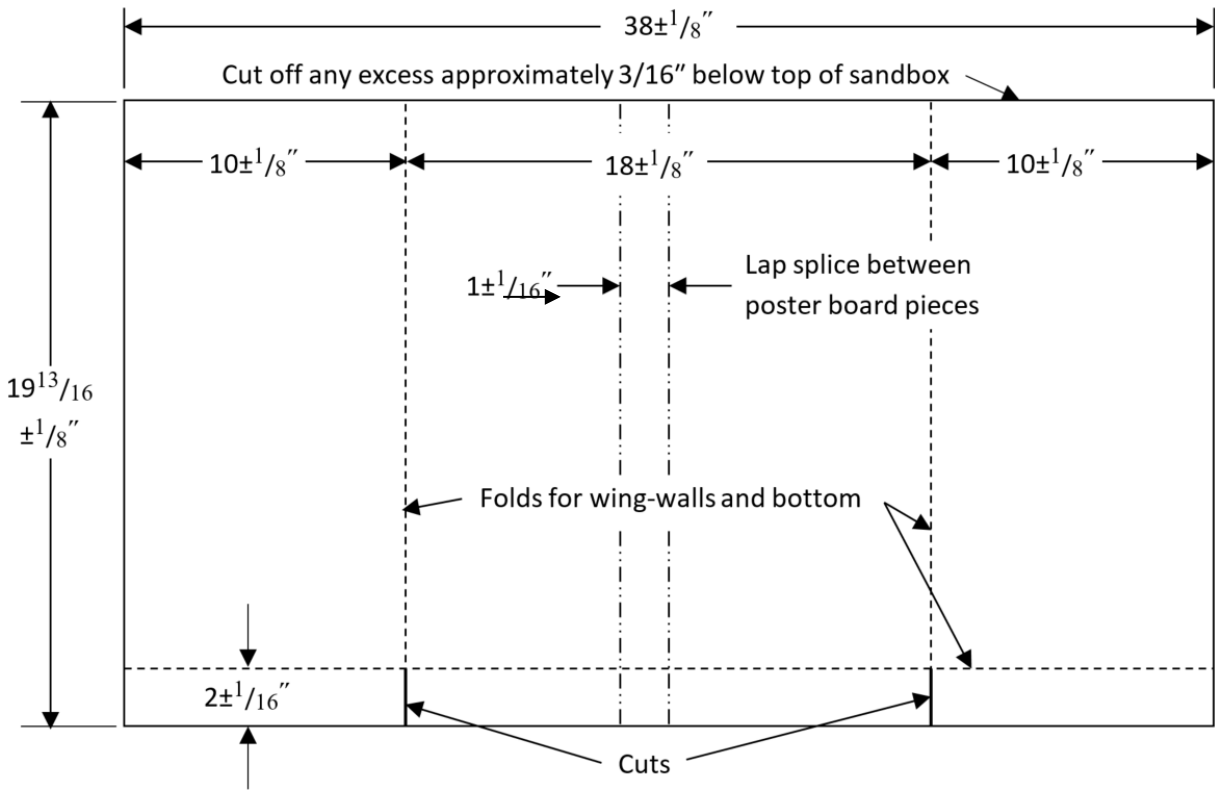

Figure 6: Dimensions of the poster board wall facing (not to scale)
- a) Facing – Two pieces of poster board must be joined with a lap splice. See Figure 6 for dimensions.
- a) **Reinforcement Fabrication Stage** – Each team will be provided with a single sheet of 60 lb kraft paper approximately 24 in × 24 in. The team must fabricate all their reinforcing elements from this sheet using authorized construction tools. Fifteen (15) minutes will be allocated for this stage. Teams will be penalized for time exceeding the time limit. After all reinforcing element are fabricated, excess material will be disposed of and the judges will weigh the reinforcing elements to the nearest 0.01g.
- b) **Wall Assembly Stage** – After each team's reinforcing elements have been fabricated and weighed, the team will be provided with two sheets of poster-board (22 in × 28 in) and a roll of packing tape. The team must assemble their wall using these materials and authorized construction tools. Dimensions for the wall facing are shown in Figure 6.
- i) Tape may be used for only two purposes: 1) to join the two poster-board sheets along the lap splice (Figure 6) to form the wall facing and 2) to attach reinforcement to wall facing. The poster-board sheets must be joined using a single lap splice on each side not exceeding 1" to form the wall facing. A single continuous strip of tape may be used on each side of the poster-board to join the poster-board sheets. The tape must be in contact with only the two poster-board sheets. No other adhesives may be used to join the poster-boards.